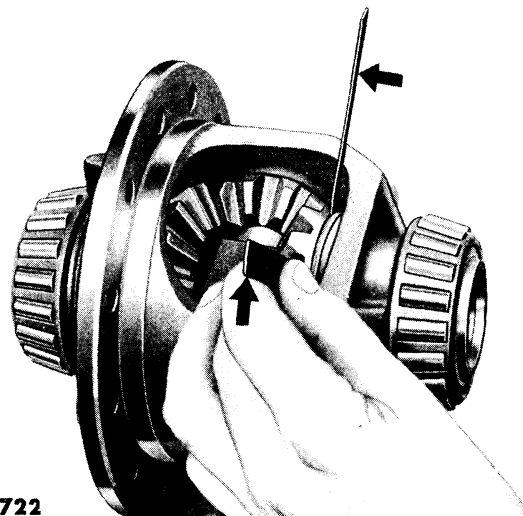

Fig. 18—Checking Differential Side Gear Clearance
- (1) Check the clearances between the side gears and thrust washers. Clearance should be .004 to .012 inch. To do this, use two feeler gauge blades. Slide the blades between side gear and thrust washer—one blade on each side of gear hub, as shown in Figure 18. Try two .004 inch blades—they should go in. Then, try two .013 inch blades—these should not go in. Now, check the opposite side gear the same way.
- (2) Remove differential pinion shaft lock pin from differential case, push out pinion shaft and remove differential side gears. When reassembling the ground surfaces
- (1) Press gear on case. Install attaching bolts and tighten to 40 foot-pounds torque.
- (2) Install the differential side gears with their thrust washers, the differential pinions and their thrust washers, and the differential pinion shaft. Check the differential side gear clearance (Fig. 18).